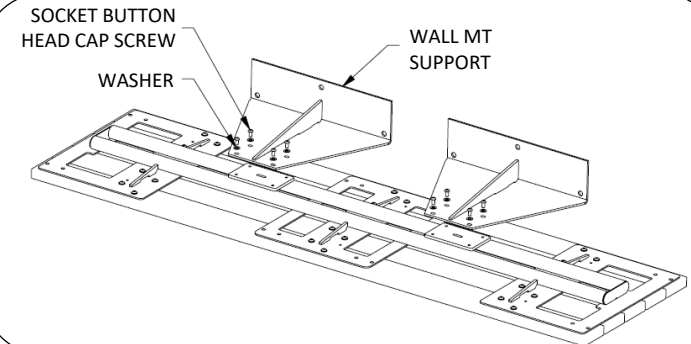

Fig. 2 – Install supports
2. Set wall mount supports in position. Install 4 screws and washers per support as shown in Fig. 2.